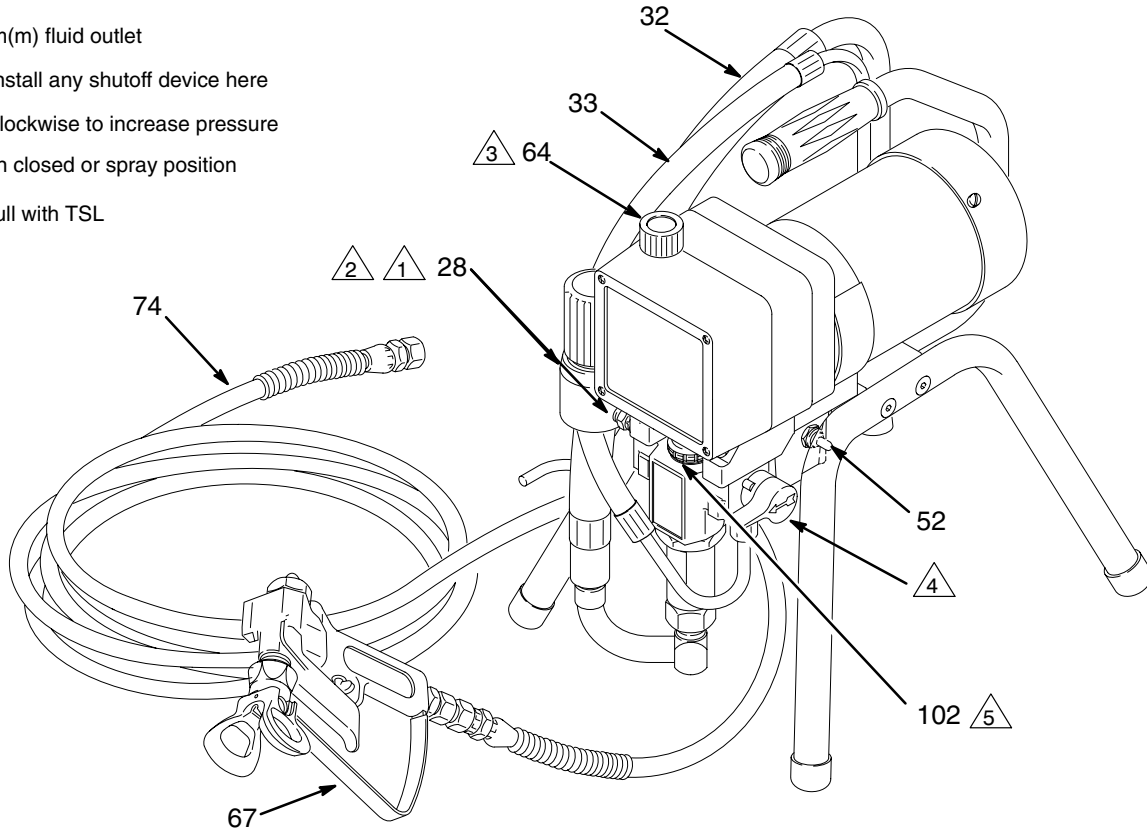
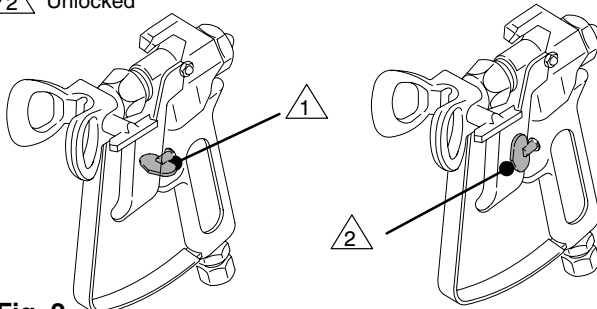

Fig. 1
Fig. 2
3. Never install any shutoff device between the pump and the hose. See Fig. 1.
When locked, the gun trigger safety prevents the gun from accidental triggering. See Fig. 2.
**NOTE:** Refer to Fig. 1 and other figures referenced in the text as you start the sprayer.
1. Open the pressure drain valve (42).
3. Put the suction hose (32) into the paint. If you are pumping from a pail, push the drain hose (33) down below the top of the pail to avoid splashing paint when the drain valve is opened.
4. Turn the pressure knob (64) to the minimum setting.
5. Unlock the gun trigger safety. See Fig. 2, page 7.